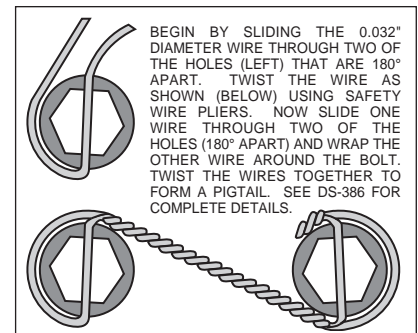

Figure 4. Safety Wire Diagram
- Apply red *Loctite*® 271 to bolt threads (2) before assembly of the caliper bracket (1) to backing plate face of spindle. Position the caliper mounting bracket (1) onto the spindle while positioning spacers (3) between bracket and spindle face. Slip the mounting bolts (2) into the threaded spindle holes, finger tighten. Torque two bolts (2) to 30 ft-lb. **NOTE:** Be sure the heads of the caliper bracket (1) insert nuts are facing outward toward the wheel.
- Install five new wheel studs (4) into the hub (5). Torque to 77 ft-lb. **NOTE:** There are two five lug patterns in the hub (5 x 4.50 and 5 x 4.75). Make sure of the correct hole pattern for the correct wheel application before installing studs into hub.
- Pack the large inner bearing cone (6) with high temperature disc brake bearing grease (available from your local auto parts store) and install into the backside of the hub (5).
- Install the grease seal (7) by pressing into the backside of the hub (5).
- Attach rotor adapter (8) to rotor (9) using six bolts (10). Torque bolts (10) to 180 in-lb. Safety wire bolts (10) using standard 0.032 inch diameter stainless steel safety wire as shown in Figure 4. Please refer to Wilwood's data sheet DS-386 (available at www.wilwood.org/ds386.pdf) for complete safety wire installation instructions. **NOTE:** The flat side of the rotor (8) lugs face toward the rotor adapter (9) with the dished side of the rotor adapter (8) facing away from the rotor (9).